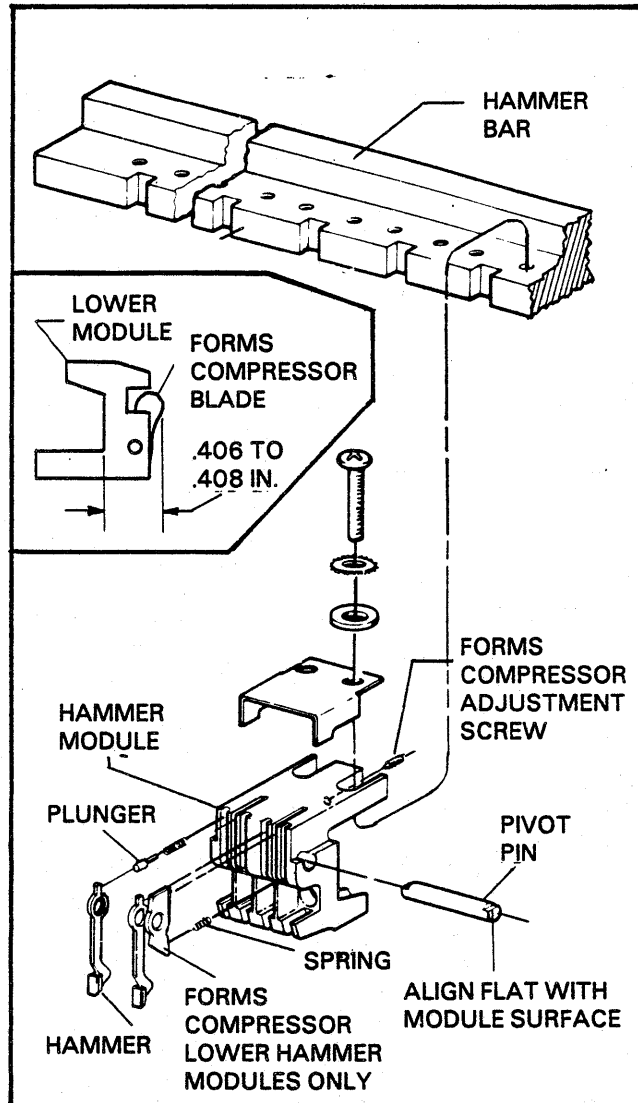

FIGURE 6-4. PRINT HAMMER REPLACEMENT
4. Remove the two module mounting screws and slide the module off the hammer bar. (See Figure 6-4).